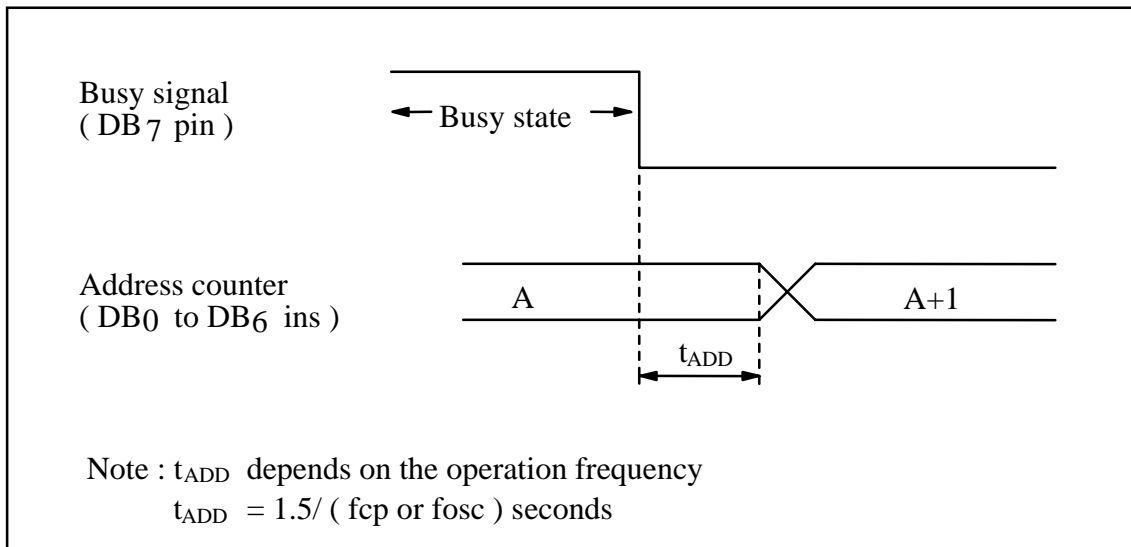

FIGURE 7 ADDRESS COUNTER UPDATE
* After execution of the CG RAM/DD RAM data write or read instruction, the RAM address counter is incremented or decremented by 1. The RAM address counter is updated after the busy flag turns off. In figure 7, t_{ADD} is the time elapsed after the busy flag turns off until the address counter is updated.